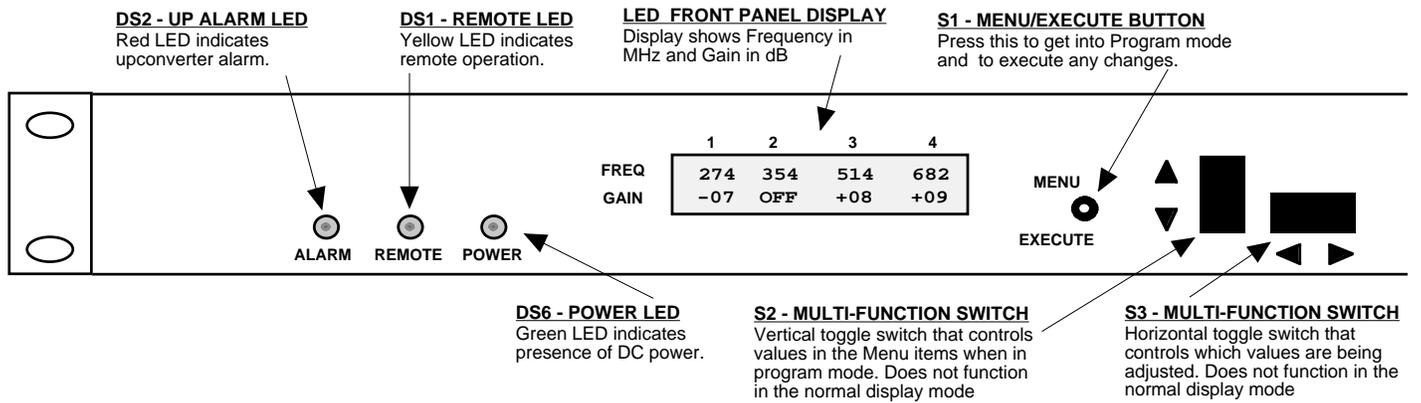

FIGURE 2.2 2019-4x Front Panel Controls and Indicators
6. Be sure DS6 (green, DC Power) is on and DS2 (red, Alarm) is off (Figure 2.2).
Alarm indications appear on the LEDs (see figure 2.2).